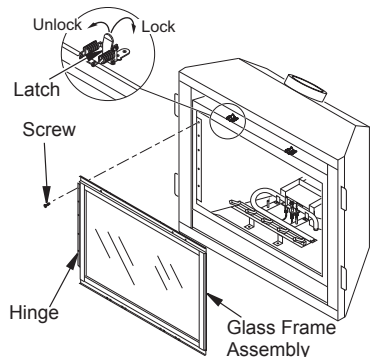

Figure 38 - Removing/Replacing Glass Door
2. Lift up on latches to unlock. There are two on top of firebox and two below firebox that hold glass door in place (see Figure 38).
3. While holding glass door to prevent it from falling and causing injury, remove the five screws from the hinge located on the left side of door frame assembly (see Figure 38).
5. Close glass door frame. Lock latches by placing the bar under the tab on door and pushing down and back on latch (see Figure 38).